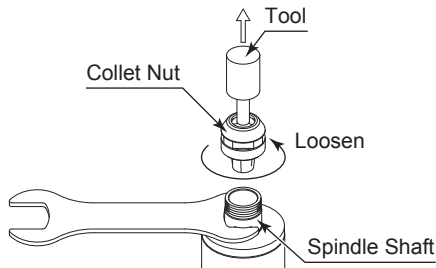

Fig. 6
- (1) Remove the tool according to the section " 7. CHANGING THE TOOL " procedure above and remove collet nut assembly (Fig. 6).